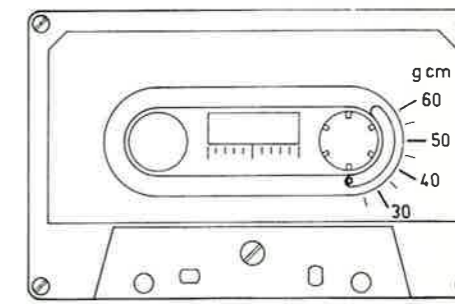

Fig. 5
- Insert a test cassette (4822 395 80037), see Fig. 5.